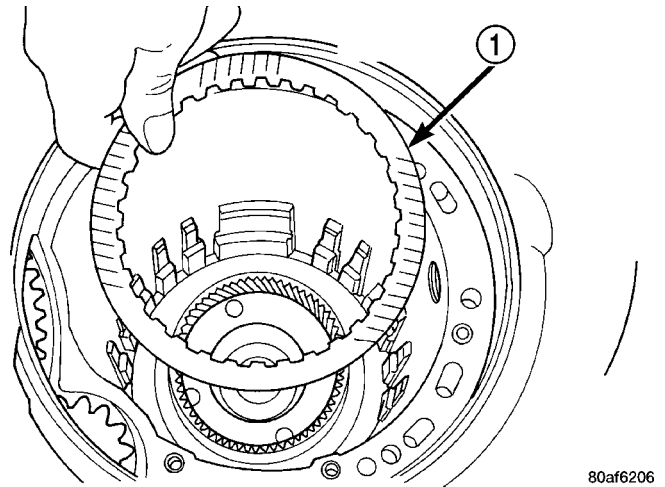

Fig. 125 Install One Disc
(40) Install remaining low/reverse clutch disc (Fig. 125).